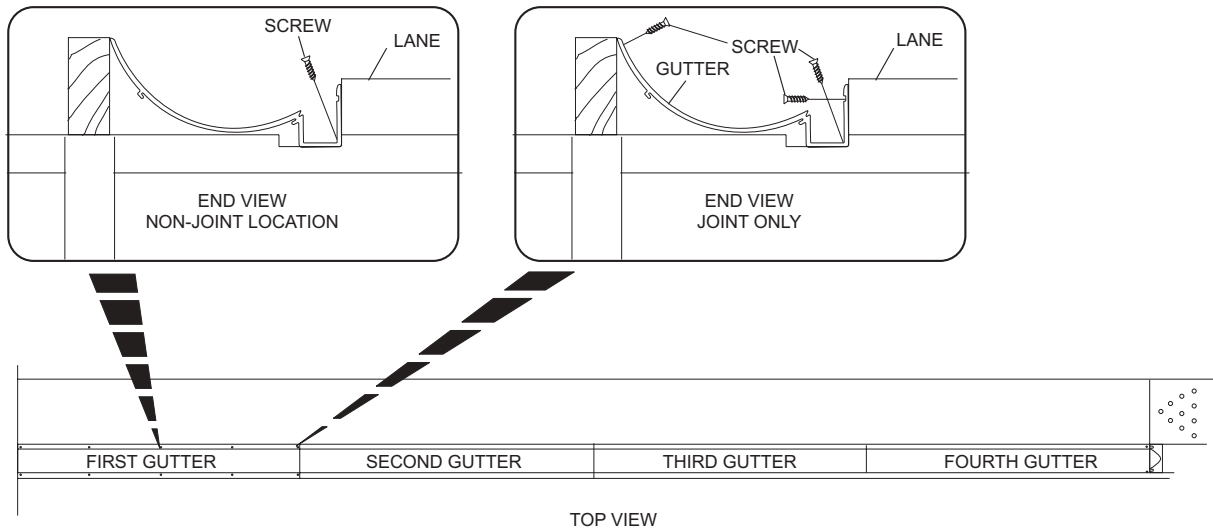

Figure 7
NOTE: It may be necessary to remove the ball return and division capping to allow the gutter to be removed. Refer to Figure 7.
- Reinstall the first gutter section sliding it onto the coupler plates. Secure the gutter to the foundation using the original screws. Refer to *Figure 7*.